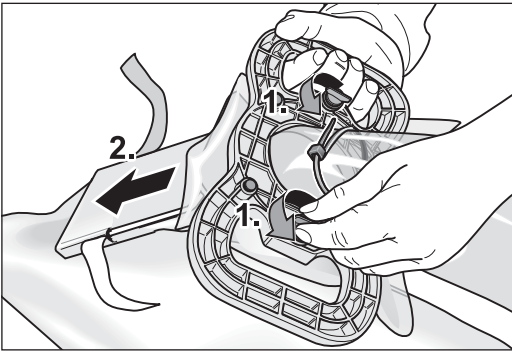

Fig. 25 Open the quick-release fasteners (1.) and remove the dust bag (2.).
- 16 Open the two quick-release fasteners on the emptying fixture (Fig. 25, 1.).
- 17 Keep the dust bag tilted at a slight angle for the residual dust to fall back into the dust bag and remove the emptying fixture from the dust bag (Fig. 25, 2.).